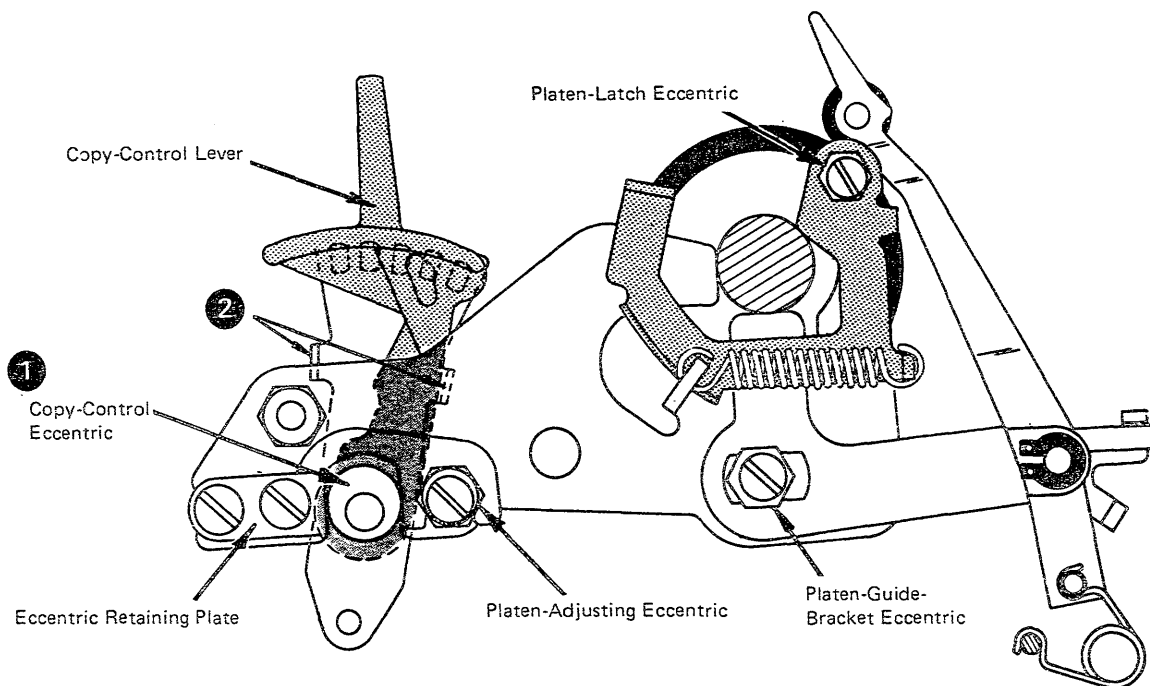

Figure 3-144. Copy Control and Platen (Level 1)
1. With the copy-control lever detented in the forward position, the high points of the eccentrics should be vertical (Figure 3-144). Adjust the copy-control lever on the shaft to satisfy this condition.
Platen, Front to Rear: Half-cycle the machine with the head of the Hoovermeter set at the No. 2 scribe line, the tool should just span the distance between the platen and the print shaft. Adjust the platen-adjusting eccentrics to obtain this condition (Figure 3-144).